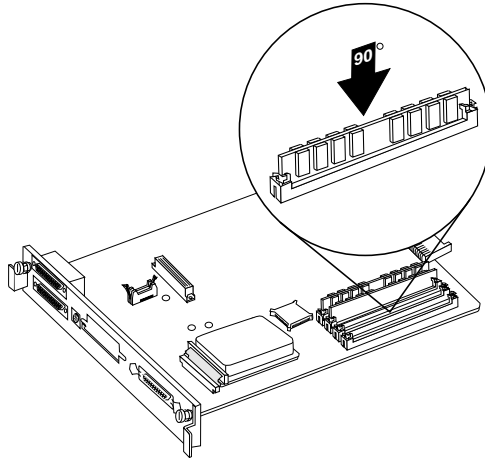

Fig. 8.16 Pull the SIMM Forward into Position
8. Gently pull the SIMM forward to a 90° angle until you feel it fit into place (fig. 8.16) behind the clips on either side of the connector. (You may need to use your fingers to open these clips.) When seated, the SIMM stands upright, firmly in place.